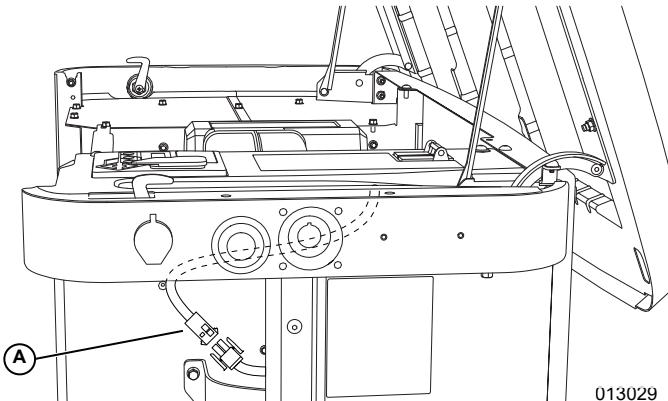

Figure 3-42. T1 Connection
1. See Figure 3-42. Remove the T1 fuse from the transfer switch or disconnect the J8-J9 connector for T1 (A) to disable the battery charger.
2. See Figure 3-42. Remove the T1 fuse from the transfer switch or disconnect the J8-J9 connector for T1 to disable the battery charger.